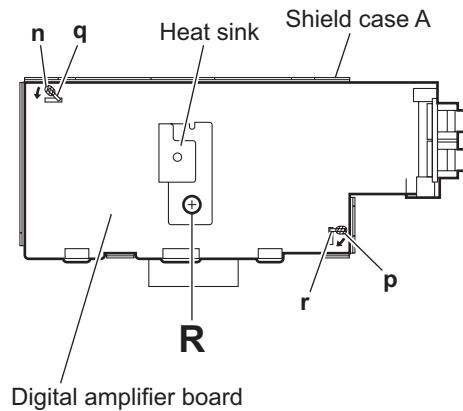

Fig.22
- (4) From the forward side of the digital amplifier board, remove the screw **R** attaching the heat sink. (See Fig.22.)
- (5) Remove the solders from the soldered sections (**n**, **p**) and bend the sections (**q**, **r**) of the shield case A in the direction of the arrow. (See Fig.22.)
- (6) Take out the digital amplifier board from the shield case A.